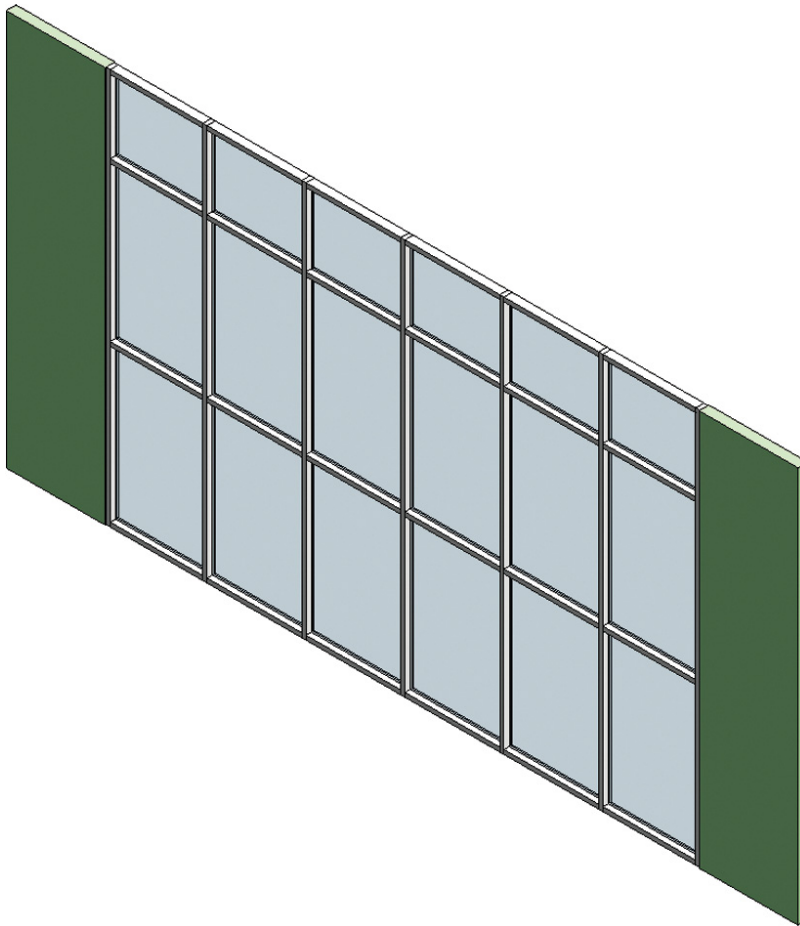

FIGURE 2.24 Embedding curtain walls
2. Using the Storefront curtain-wall type, sketch a 30'-0" (9 m) segment directly in line with the generic wall segment (Figure 2.24). Note that this curtain wall type has grid spacing and mullions defined in the type properties.